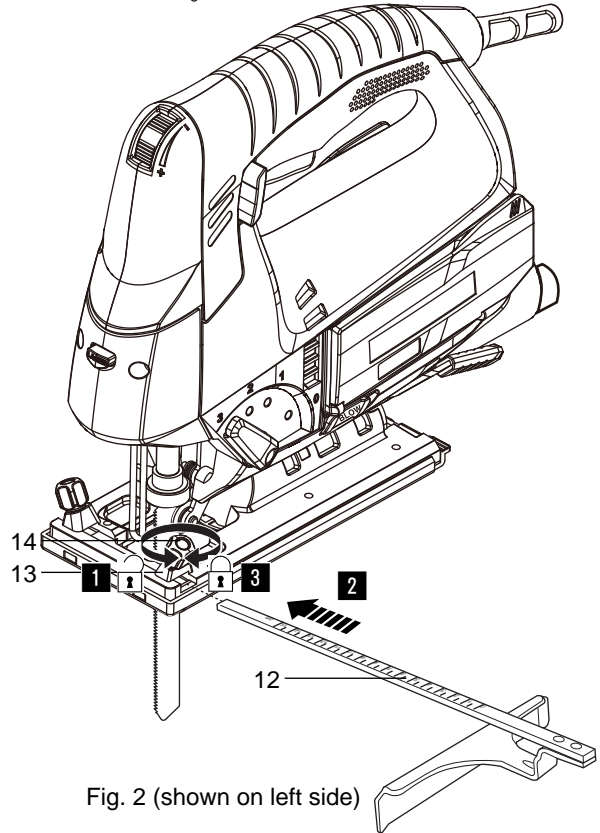

Fig. 2 (shown on left side)
1. Loosen the 2 locking knobs (14) (Fig. 2, step 1).
2. Align the parallel guide (12) with the brackets (13) and insert it (12) through them (Fig. 2, step 2).
4. Tighten the locking knobs (14) to secure the parallel guide (12) in position (Fig. 2, step 3).